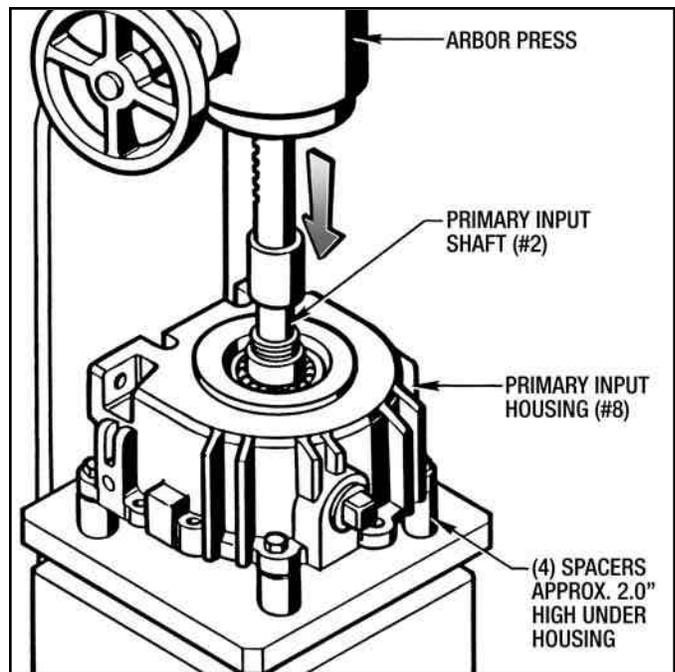

Figure 7.05 - Removing Primary Input Shaft
- Use an Arbor Press to press the Input Shaft out of the Input Housing as shown in Figure 7.05.
4. Using the same procedure as described in **Section 7-9**, remove the Quill Input Shaft (#2) from the Housing with an Arbor Press (See Figure 7.05).